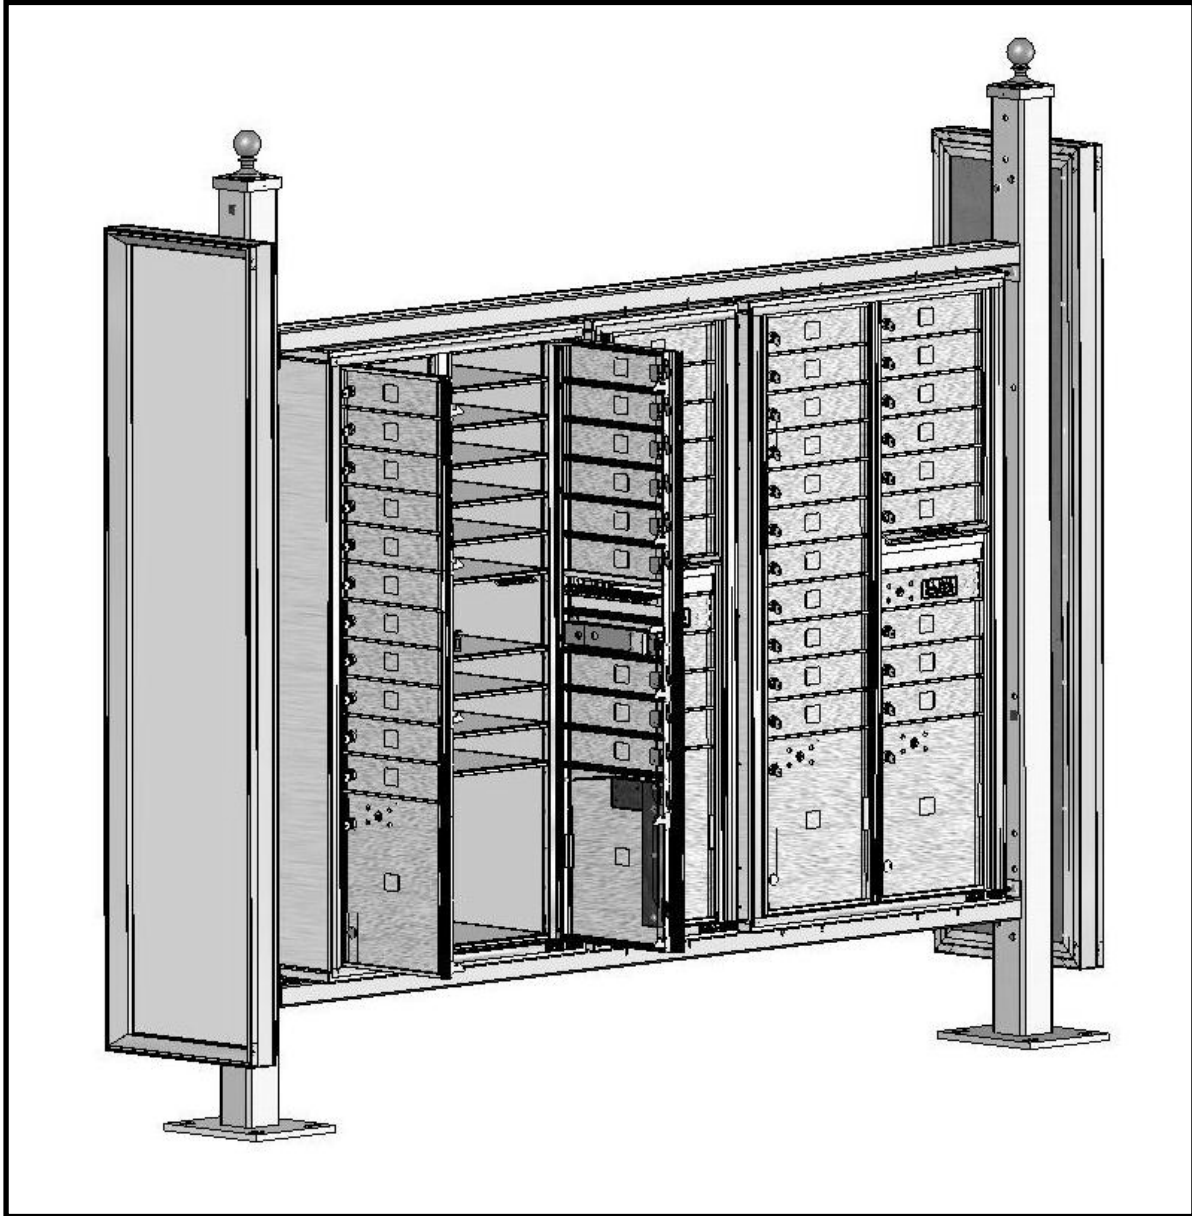

Figure 36 – 4C Master Load Doors Open
- c) Open the master doors of the 4C mailbox so the hold-open arms secure the doors in the open position. *See Figure 36.*